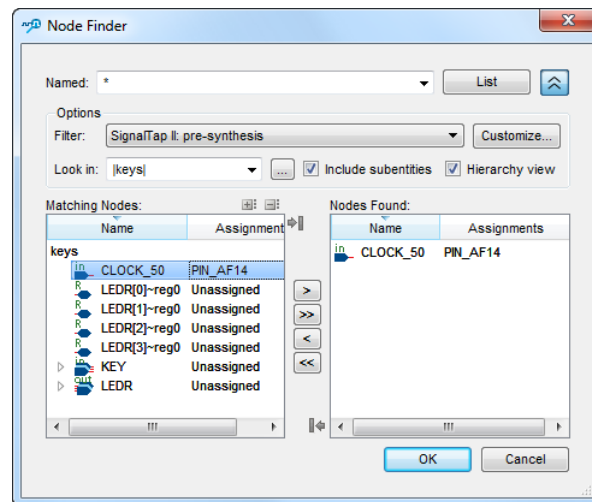

Figure 9. Setting CLOCK\_50 as the clock for the SignalTap instance on a DE-series board.
- Before the SignalTap analyzer can work, we need to specify what clock is going to run the SignalTap module that will be instantiated within our design. To do this, in the Clock box of the Signal Configuration pane of the SignalTap window, click , which will again bring up the Node Finder window. Select List to display all the nodes that can be added as the clock, and then double-click CLOCK\_50, which results in the image shown in Figure 9. Click OK.